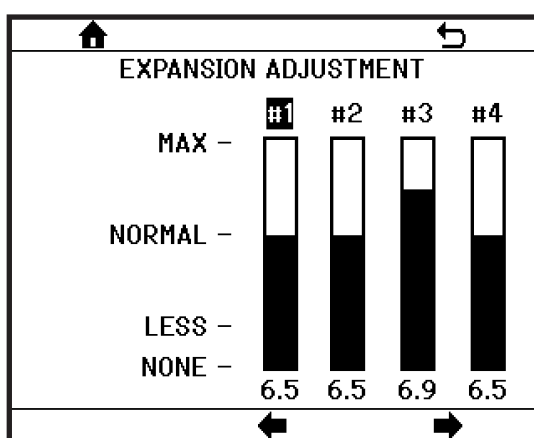

Figure 7.20
- EXPANSION ADJUSTMENT: Used to adjust the amount of gas in a drink (Figure 7.20). The range of values is limited based on the configured gas and drink type.
EXPANSION ADJUSTMENT (Figure 7.20) - This menu allows the user to set how much gas is injected into the drink. The adjustment ranges from “MAX” (high levels of gas, high expansion) to “LESS” (lower levels of gas, low expansion). Select the barrel number and adjust the level up or down.